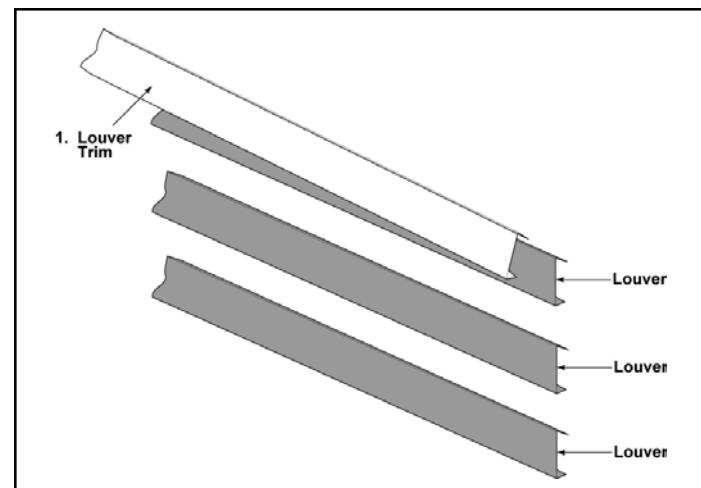

Figure 1
- 1) Slip the angled lip of the trim piece onto the top edge of the louver. See Figure 1.